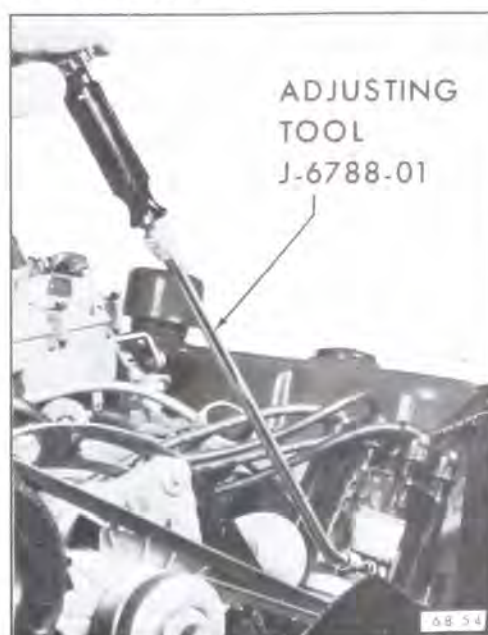

Figure 68-36 - Adjusting Contact Point Dwell Angle - V-8 Engines
3. Start engine. Lift adjustment window and insert 1/8" Allen wrench in adjusting screw. See Figure 68-36. Set dwell angle at 30 degrees.